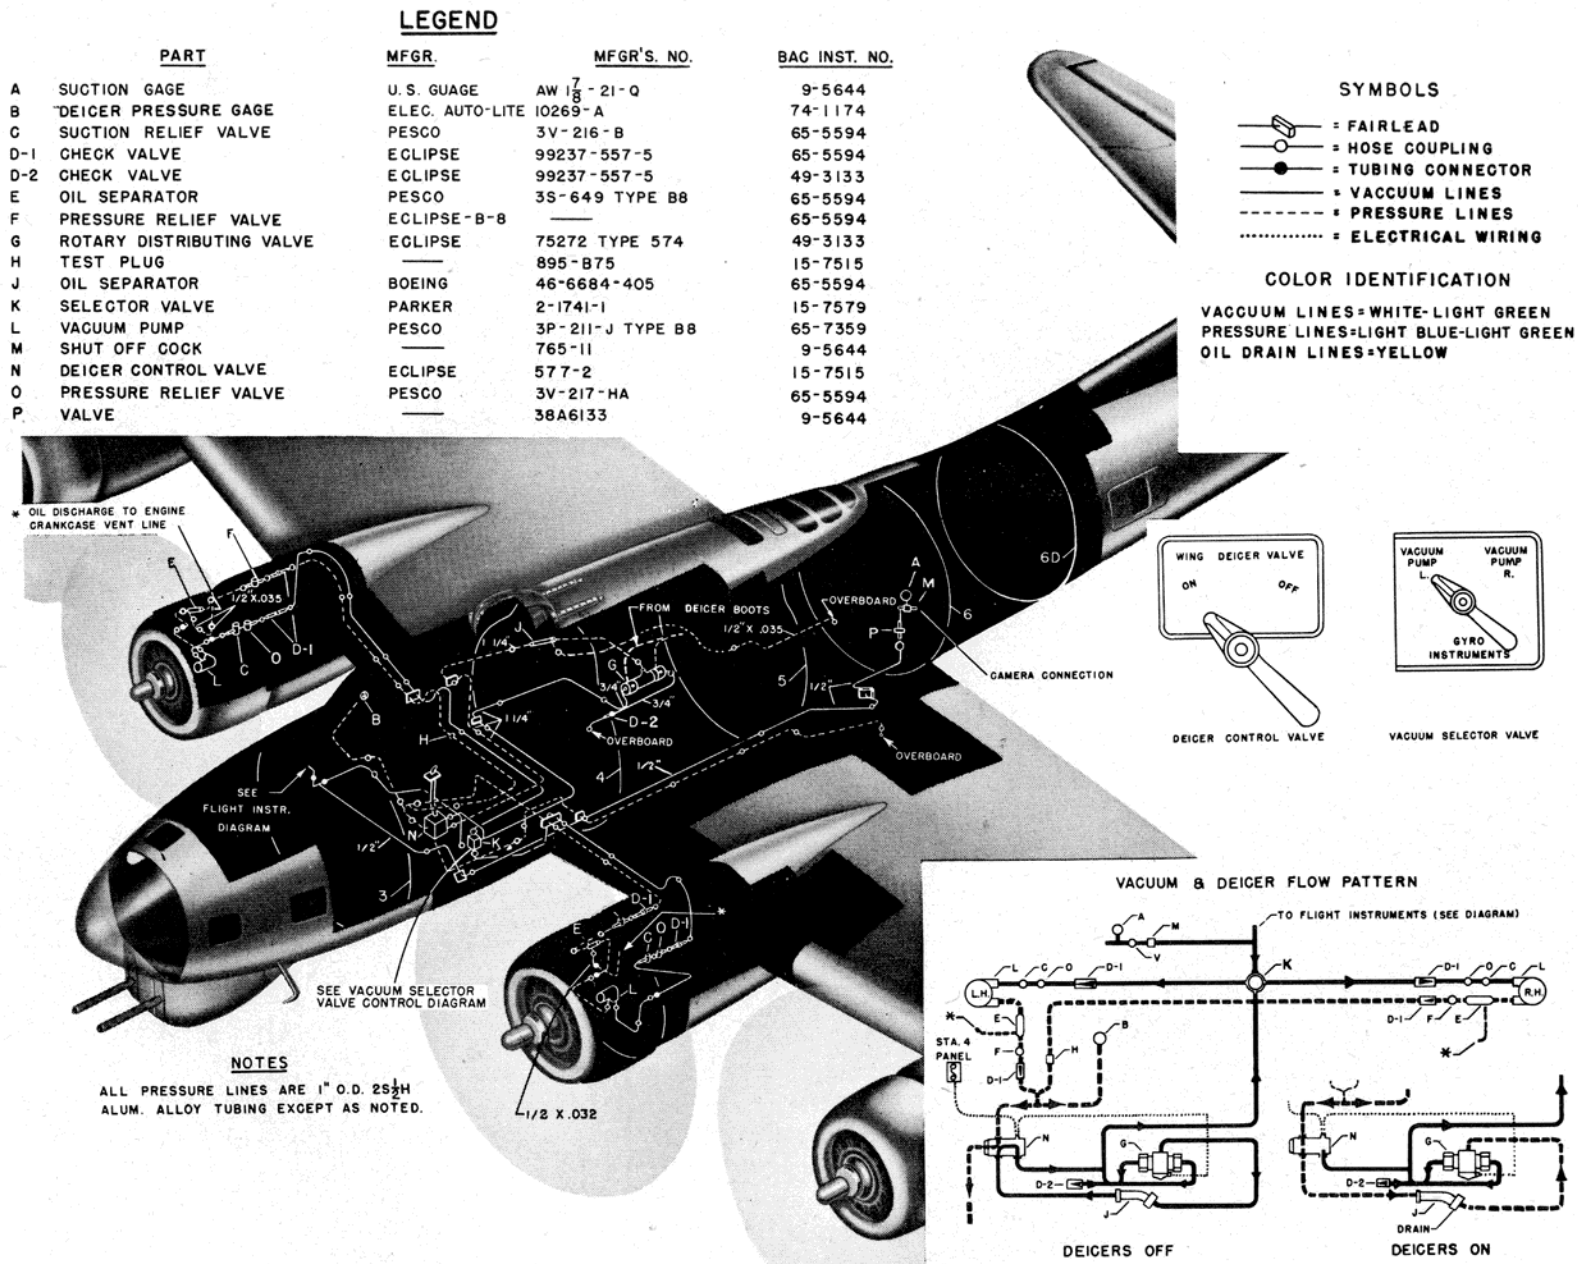

Figure 355—Vacuum and Deicer System
4. SURFACE DEICER SYSTEM.—Refer to figure 355 for complete information on location and identification of equipment. Refer to the surface deicer tubing diagram for location and sequence of connections of the distribution lines from the distributor valve to the deicer shoes. Connect the equipment as indicated in the diagrams, giving particular attention to the location and types of relief valves, and the direction of flow of check valves. At installation of the vacuum pumps, the oil drain passage to the engine crankcase will be